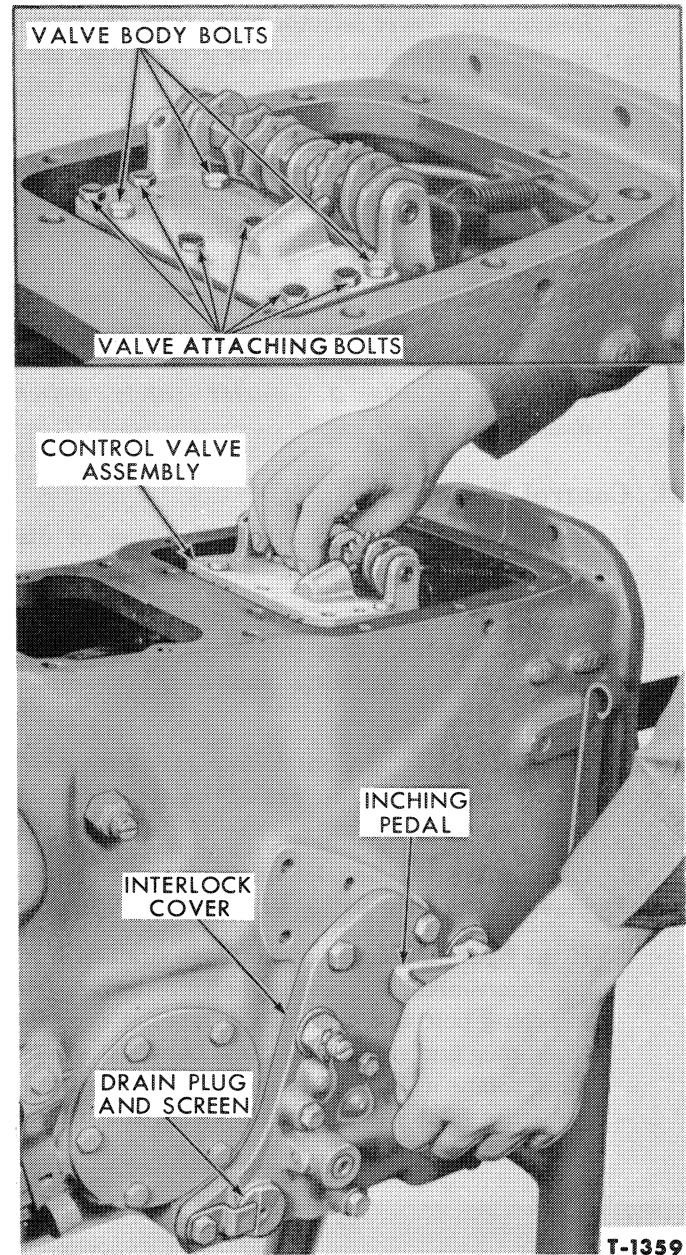

Figure 82—Removing the Control Valve Body
2. Remove the bolts that attach the control valve body to the distributor shown in the insert, Figure 82.
3. Depress the transmission inching pedal and remove the control valve, as shown in Figure 82.